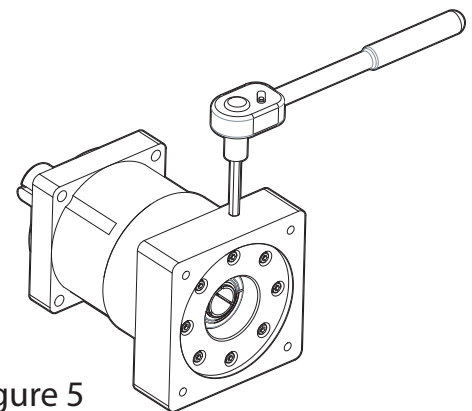

Figure 5
- 5) Tighten the collar bolt on the input shaft. Reinstall the access hole plug (if provided). Refer to the torque specifications in the following table and tighten to the given torque specifications. (Figure 5).